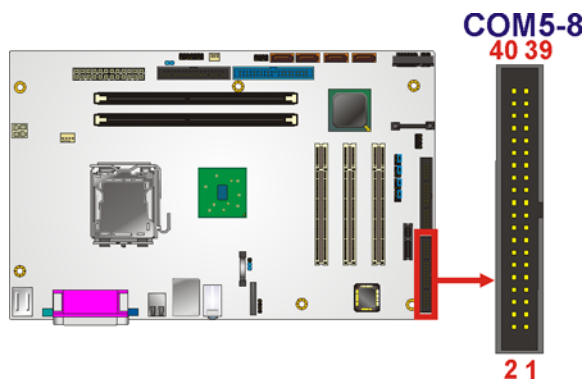

Figure 4-14: Serial Port Connector 2 Location
- CN Location:** See **Figure 4-14**